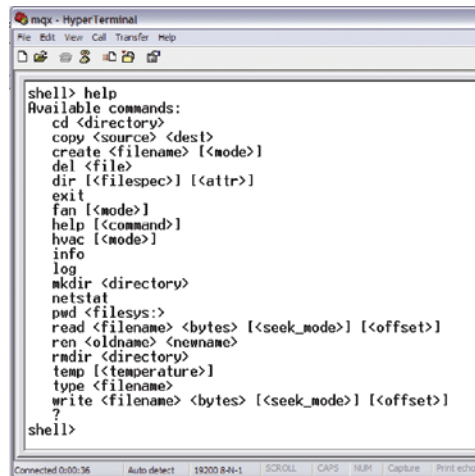

Figure 4: Shell commands with USB functionality enabled
8. Type **help** to see the list of commands. You should see additional commands available as seen in Figure 4. You can use the commands to exercise the memory stick attached.